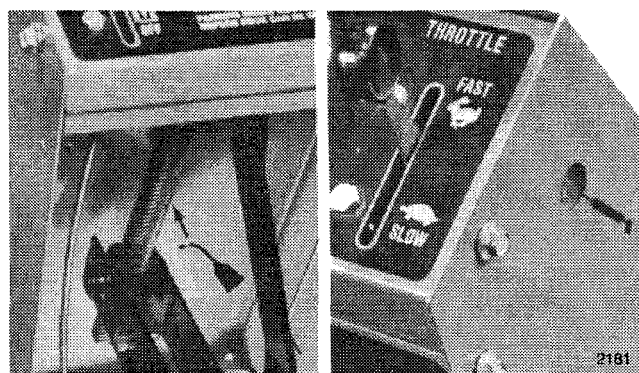

Figure 23
4. Lubricate the traction pedal bushings with a few drops of SAE 10W-30 oil or dry spray lube and the steering shaft (Fig. 23).